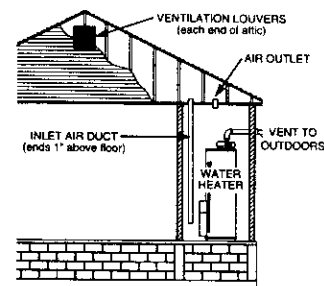

Figure 7
2. When communicating with the outdoors through vertical ducts, each opening shall have a minimum free area of 1 square inch per 4,000 BTU per hour of total input rating of all equipment in the enclosure. (See Figure 7.)